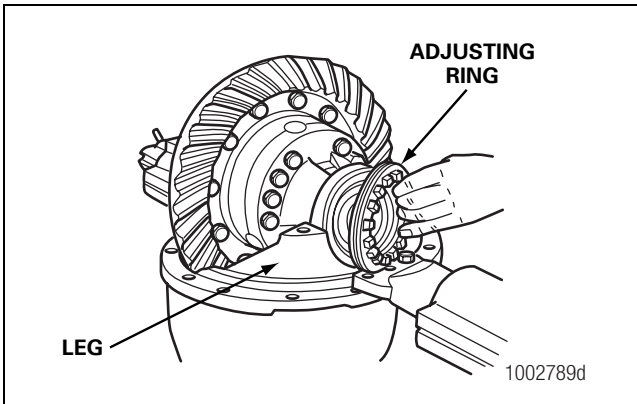

Figure 5.51
6. Install both of the bearing adjusting rings into position between the carrier legs. Turn each adjusting ring hand-tight against the bearing cup. Figure 5.51.